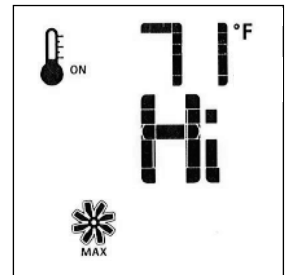

Figure 89. Fan Speed.
- Use the Up/Down Arrow Keys to turn ON, OFF, or adjust the fan speed. Fig. 89. A single “beep” will confirm reception of the command. After a 5 minute interval, the fan will power up to its highest speed and then modulate down to the established fan speed setting. The fan will continue to operate for 12 minutes after the burner is turned off. Manual speed control is not available when the SMART Thermostat is ON.